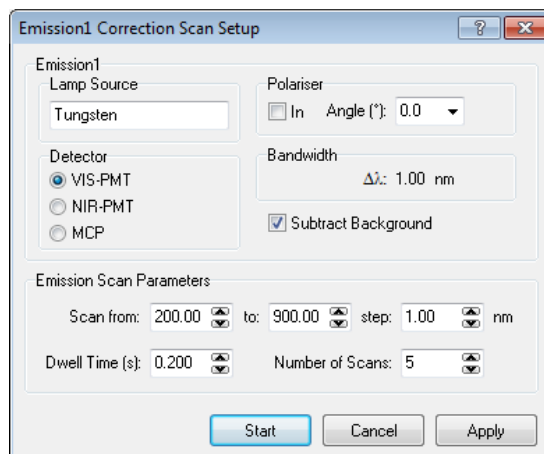

Figure 4-6: Emission Correction setup dialogue box
3. Close the Signal Rate dialogue box and open the dialogue screen **Correction Scan >> Emission....** The Correction Scan Parameters in the lower section of the dialogue box may be changed now. The scan parameters for the first scan are shown in Figure 4-6.